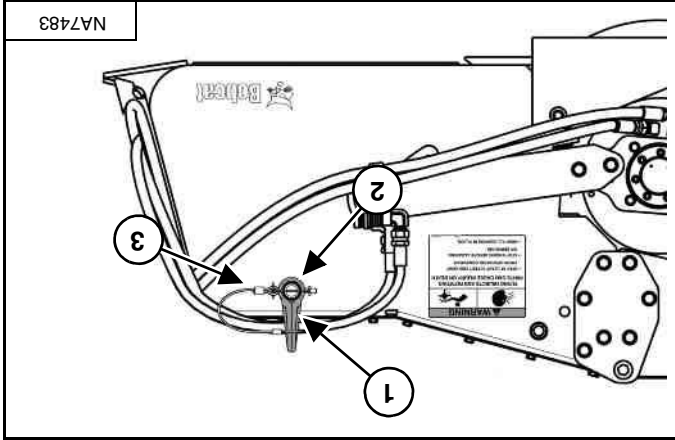

Figure 67
Install the removable hose guide (item 1) onto the storage post (item 2) [Figure 67] (if equipped).
Insert lock pin (item 3) [Figure 67] through the removable hose guide and storage post. Latch eyelet onto the lock pin.